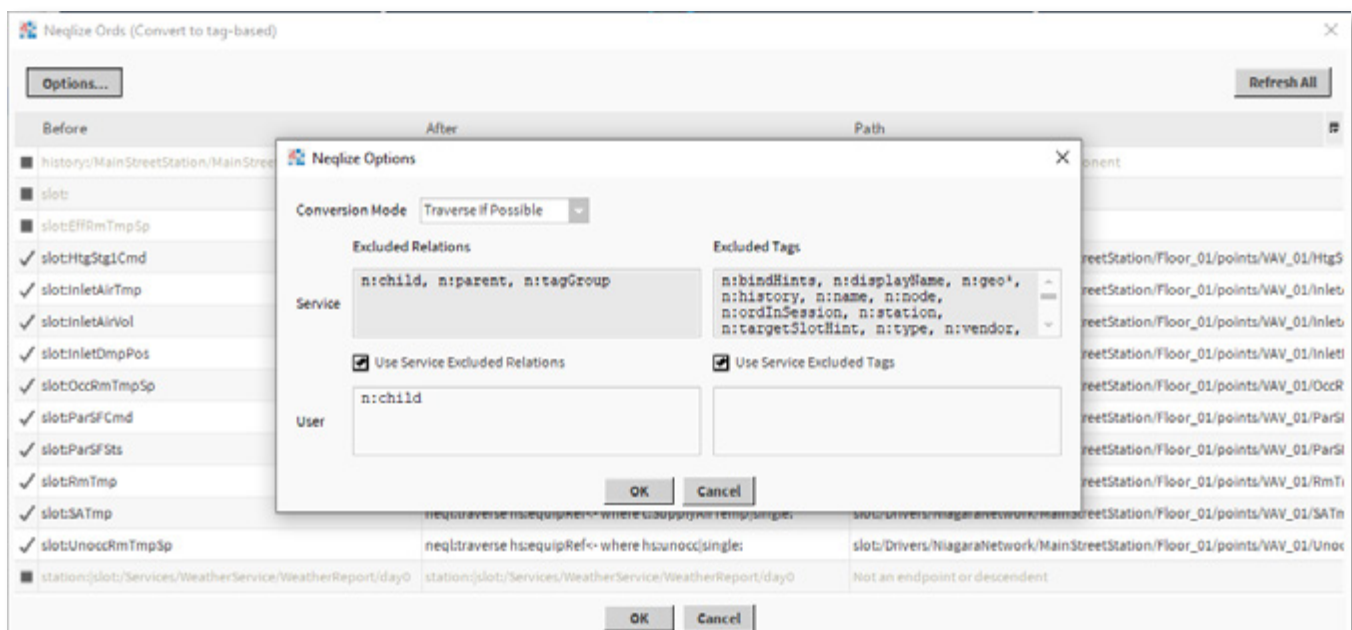

Figure 3. Neqlize Options Dialogue.
- **Neqlize Options** launches a dialogue for specifying the conversion mode. From this menu, you can also exclude specified relations and tags that were utilized for the Neqlize Ords feature (Figure 3).